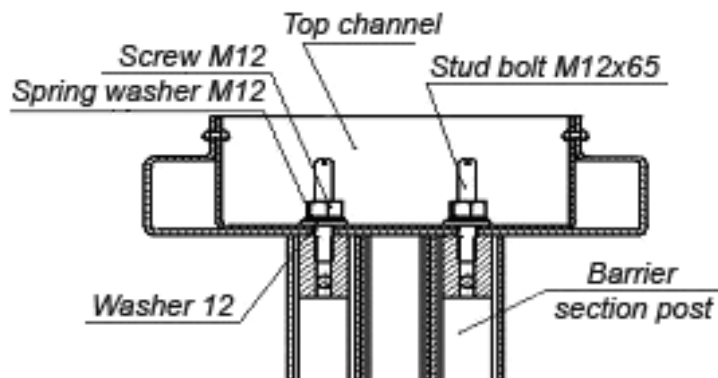

Fig. 9. Fixing the top channel (13) to the barrier section (3)
8.2.8 Screw two stud-bolts M12x65 into the top end of the barrier section (3) (Fig. 9).
Fix the barrier section end of the top channel: place the washer 12 on each stud-bolt, and then place the spring washer 12. Fix the top channel in place by two nuts M12 (Fig. 9), the nuts being screwed on to the middle of the stud-bolt protrusion.
- undo four screws M4x20 with washers M4 that fix the cover (14) at both ends of the top channel (13), lift and take off the cover;
- check and tighten when necessary all screw joints of the turnstile (sect. 8.2.11, 8.2.14-8.2.16 and Fig. 9 and 10);